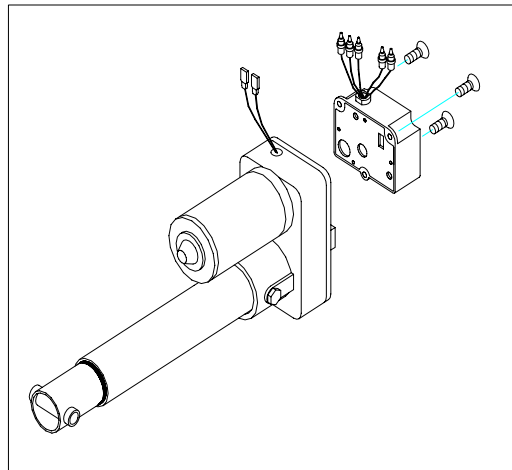

Figure 3. Remove the VR box.
3. Remove the VR box from the incline motor as shown in Figure 3.